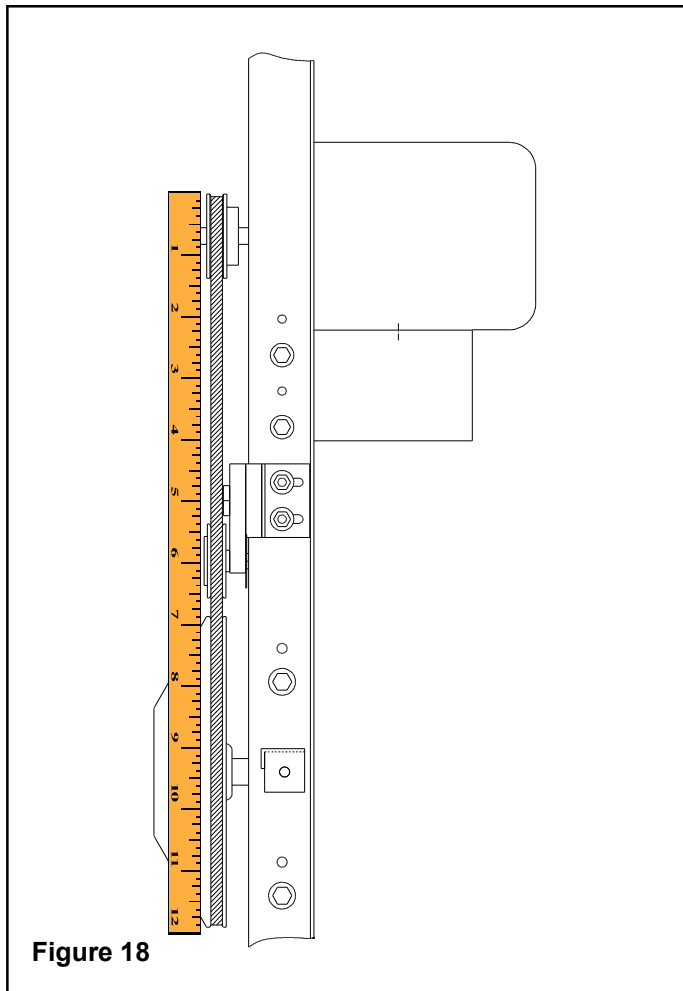

Figure 18
The next step is to mount the motor to the motor bracket with four (4) 5/16" x 1" hex bolts, eight (8) flat washers, four (4) lock washers and four (4) hex nuts. See Figure 13. Slide the motor pulley on the motor shaft with the set screw(s) towards the motor, and insert the key. See Figure 14. Do not tighten the set screw until motor pulley is checked for proper alignment. See Figure 18.
Spin the blade assembly by hand. Make sure that the blade assembly rotates freely and did not shift during shipment. If the blades rub in the fan housing on either side, it will be necessary to loosen the two (2) 3/8" bolts that secure the blade assembly's hexagonal shaft to the fan x-braces, center the blade assembly, and tighten the bolts to 25-30 ft-lbs torque. If the blades rub in the fan housing at the top or bottom, it will be necessary to loosen the four (4) 3/8" bolts that secure the fan x-braces to the fan uprights, center the blade assembly, and tighten the bolts to 25-30 ft-lbs torque. See parts lists on pages 12 and 13 for fan parts description. Next, the fan drive assembly should be checked for alignment. The fan drive assembly must be aligned for proper fan performance and to minimize pulley and belt wear. Before wiring and operating the fan, check that the drive pulley, driven disc and auto belt tensioner are aligned by using a straight edge such as a scale or yard stick. After making sure drive is aligned, tighten the motor pulley set screw(s). See Figure 18.